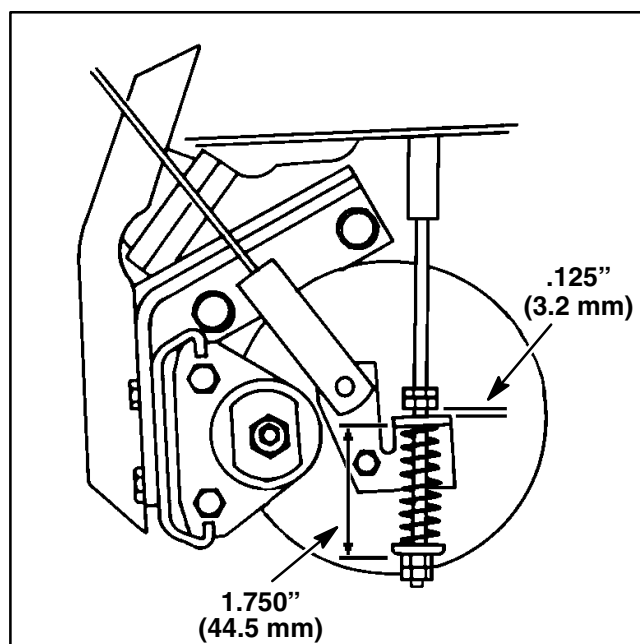

Figure 7
- B. Apply Loctite #242 (or equivalent) to threads of two (2) sets screws (item 6). Secure brake disc on shaft with set screws.
3. Secure brake bracket to frame with two (2) cap screws (item 10) and lock washers.
4. Connect brake arm (item 23) to brake caliper lever with two (2) cap screws (item 22) and lock nuts (item 2).
5. Check and adjust location of nuts on brake rod (Fig. 7):